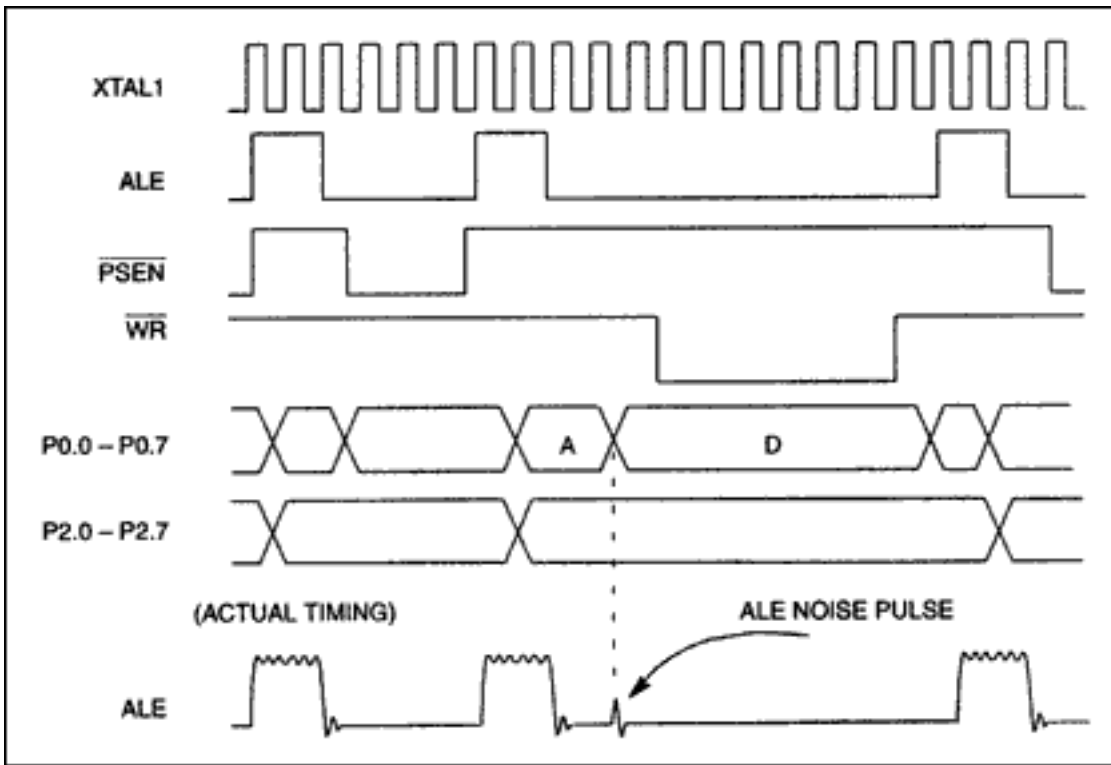
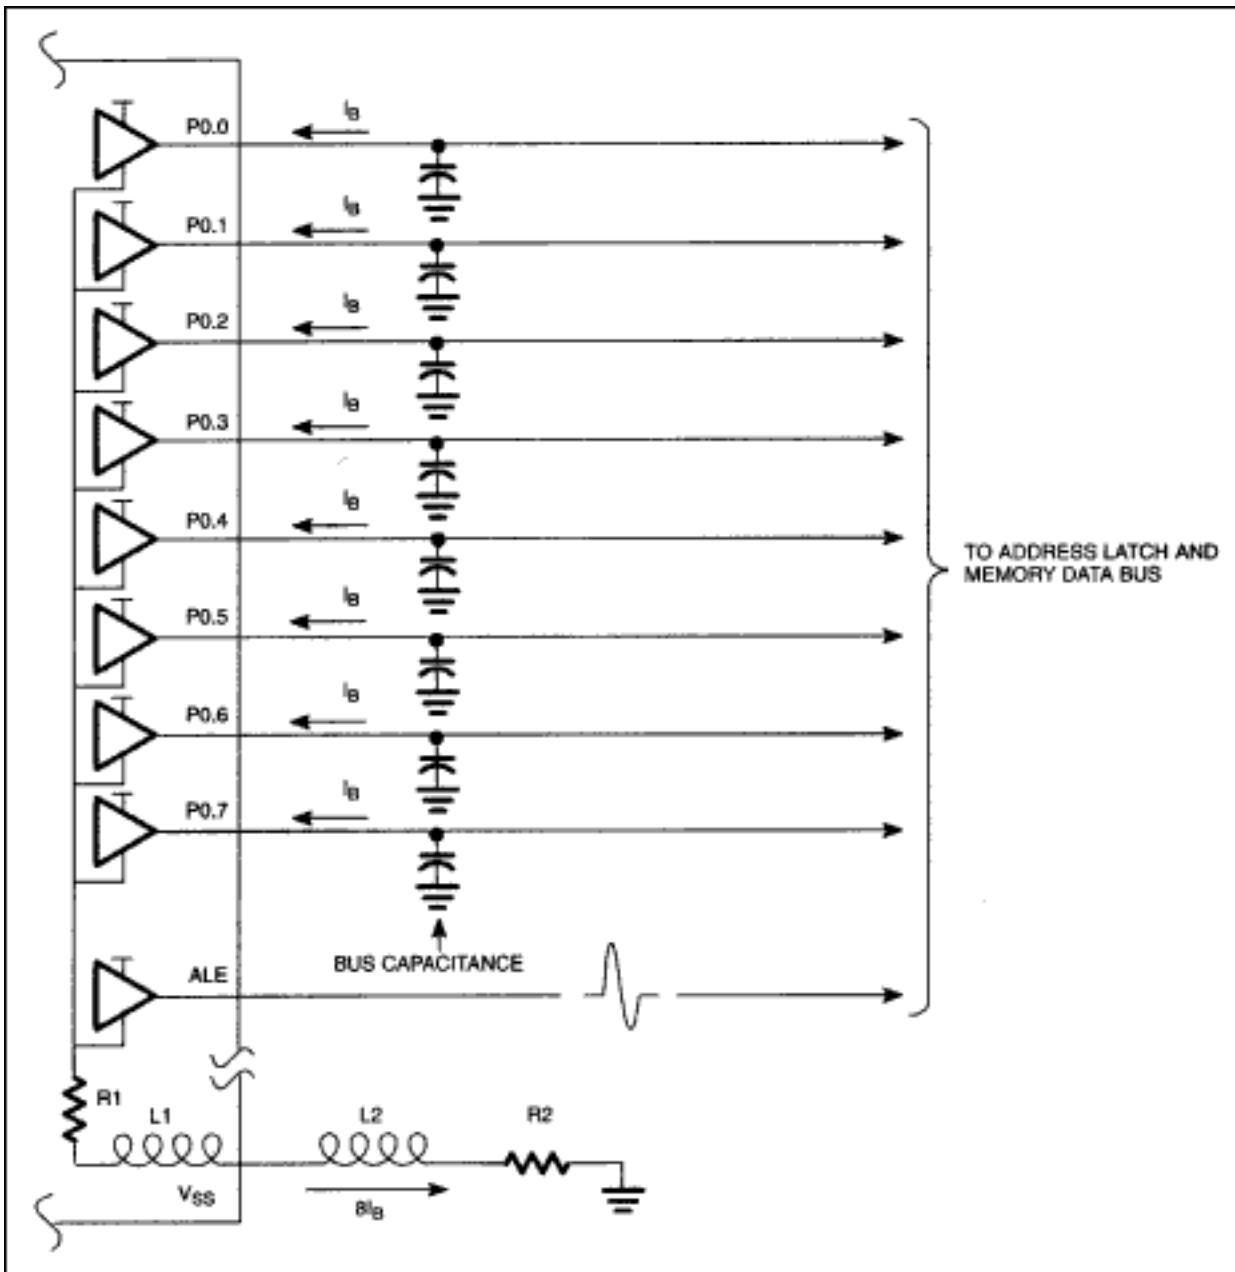

Figure 1. Data memory write (ideal timing).
Figure 2. ALE noise source.
Under certain system conditions, noise induced on ALE can cause an incorrect LSB address to be latched when using the multiplexed address/data bus. The noise, as seen in **Figure 1**, is generated by the highspeed switching of Port 0 when the processor stops driving a memory address and begins driving data during a MOVX write. The noise pulse can, under the right conditions, rise above the  $V_{IH}$  input threshold of TTL, LS, FS and HCT logic. In this case, the 74373 latch may be falsely triggered, latching an incorrect address and disturb the LSB address of the MOVX write.
**Figure 2** shows a system diagram of how the noise pulse is generated. The noise pulse is produced when the processor drives a Port 0 pin with a high address (see "A" in Figure 1) followed by a low for data (see "D" in Figure 1). The device must sink a relatively large amount of current on each pin ( $I_B$ ) to take the line from a high to a low state. It is obvious that the more pins which change from a high to a low, the larger the noise. The worst case will be during a MOVX write instruction with an LSB address of FF (Hex) and a data byte of 00 (Hex). Because all eight port pins are switching simultaneously, the maximum amount of current will be drawn into the microcontroller. The combined inductance and resistance both inside the processor and in the system result in the processor internal ground rising above the system ground. This in turn induces the noise seen on ALE. The case of a MOVX read does not involve the sinking of current by the processor and should not induce significant noise on the ALE signal. System elements which have a direct relationship to the magnitude of the noise are: